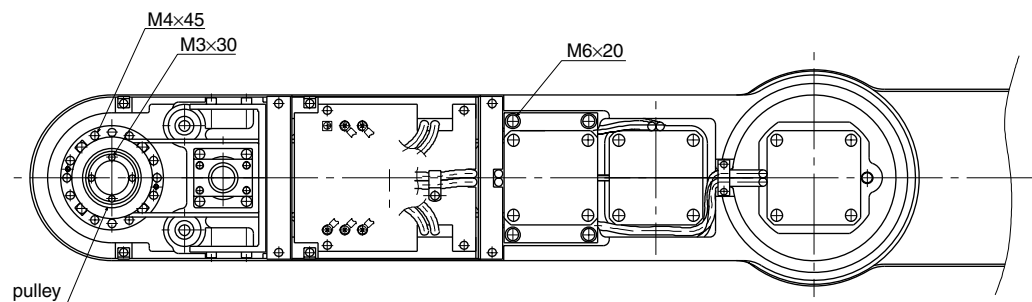

Fig. 5-22
- 11) Remove the bolts (M6×20L, 4 pieces) securing the R-axis motor plate at the top of the Y-axis arm. (See Fig. 5-22.)
- 12) Loosen the pulley bolts (M3×30L, 4 pieces) and remove the pulley fastened to the wave generator. (See Fig. 5-22.)
- 13) Remove the harmonic drive installation bolts (M4×45L, 12 pieces) and pull out the harmonic drive from the bottom of the Y-axis arm. (See Fig. 5-22.)
Apply small amounts of "Screw Lock" to the bolts (M4×45L, 12 pieces) and tighten them to secure the harmonic drive to the Y-axis arm from the top of the Y-axis arm. (See Fig. 5-22.)
- 19) Apply small amounts of "Screw Lock" to the bolts (M3×30L, 4 pieces) and tighten them to secure the pulley to the wave generator. (See Fig. 5-22.)
- 20) Fit the timing belt onto the wave generator pulley and motor pulley, and then secure the motor plate. (See Fig. 5-22.)